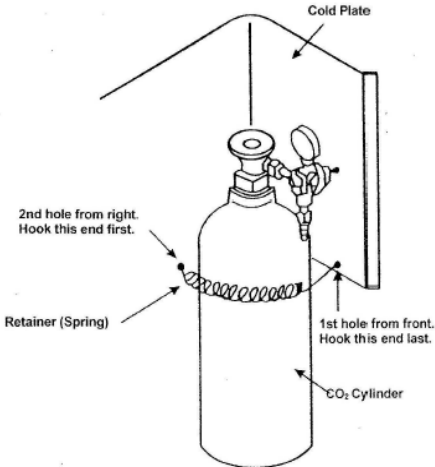

Fig. 2
c. Place CO₂ cylinder at right rear corner inside beer dispenser cabinet in upright position. Fasten CO₂ cylinder with CO₂ cylinder retainer (spring) provided. Hook both ends of retainer to holes in cold plate. (See Fig. 2).